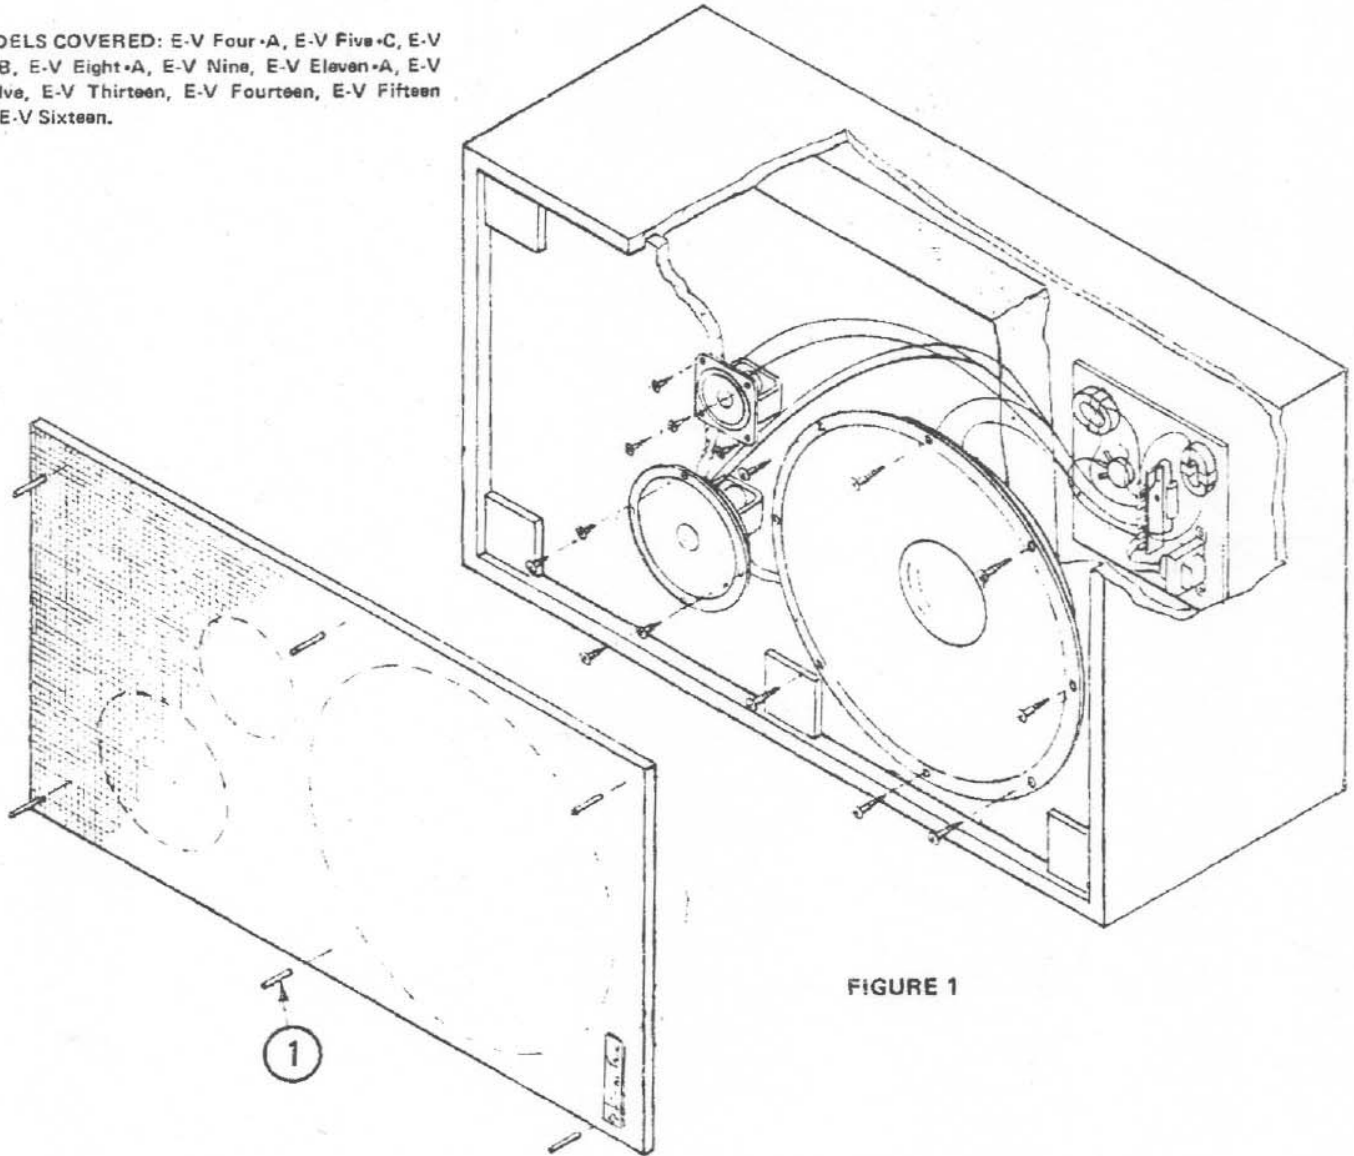

FIGURE 1
1. The Grille Assembly on all Electro-Voice front-loaded bookshelf speaker systems is secured with Spotnail Pins (1). Locate these pins in grille cloth web and carefully drive $\frac{3}{8}$ -inch into enclosure with small punch or nail (Figure 1). All models contain (6) six pins except E-V Eight-A, which contains (4) four pins. $1\frac{1}{2}$ -inch should be sufficient to free the grille assembly from Spotnail Pins. Slight air leaks may develop if a pin punctures the inner enclosure space. The pins should be left in the enclosure if they are not to be reused. See Grille Cloth reassembly.)